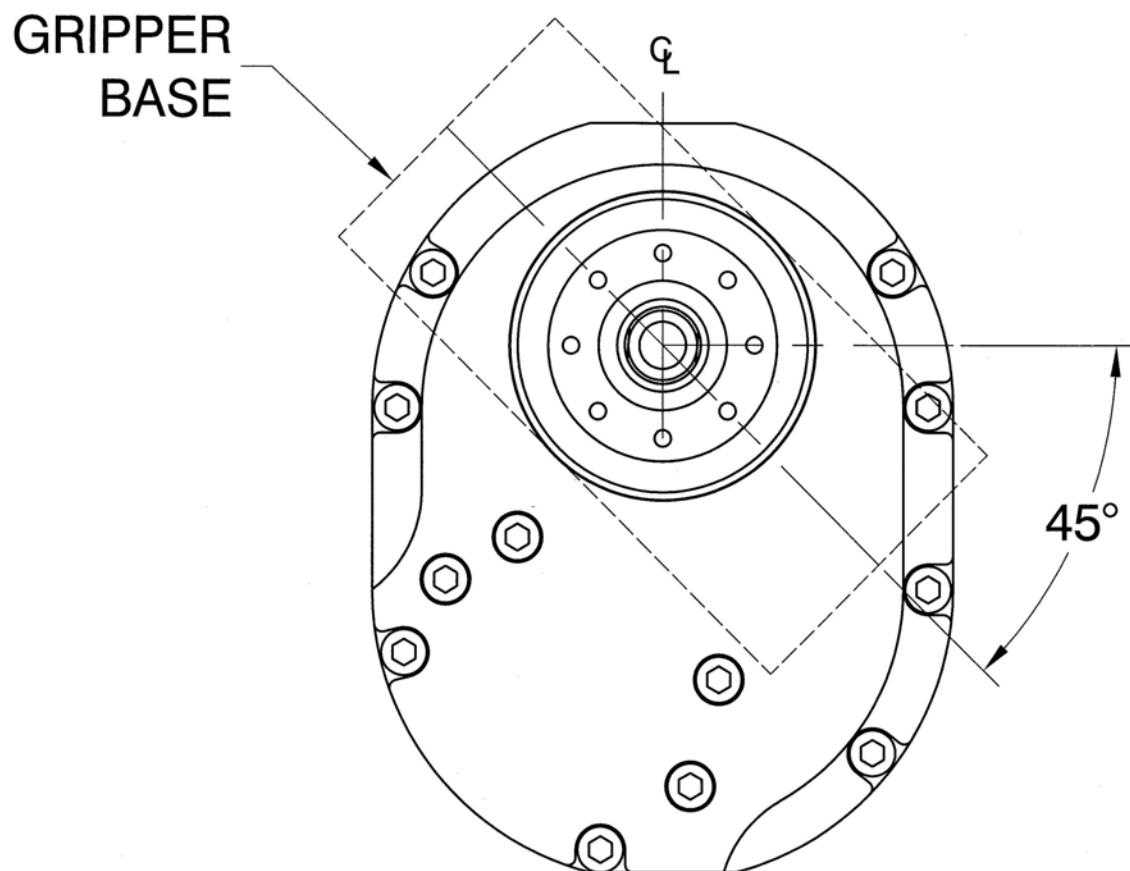
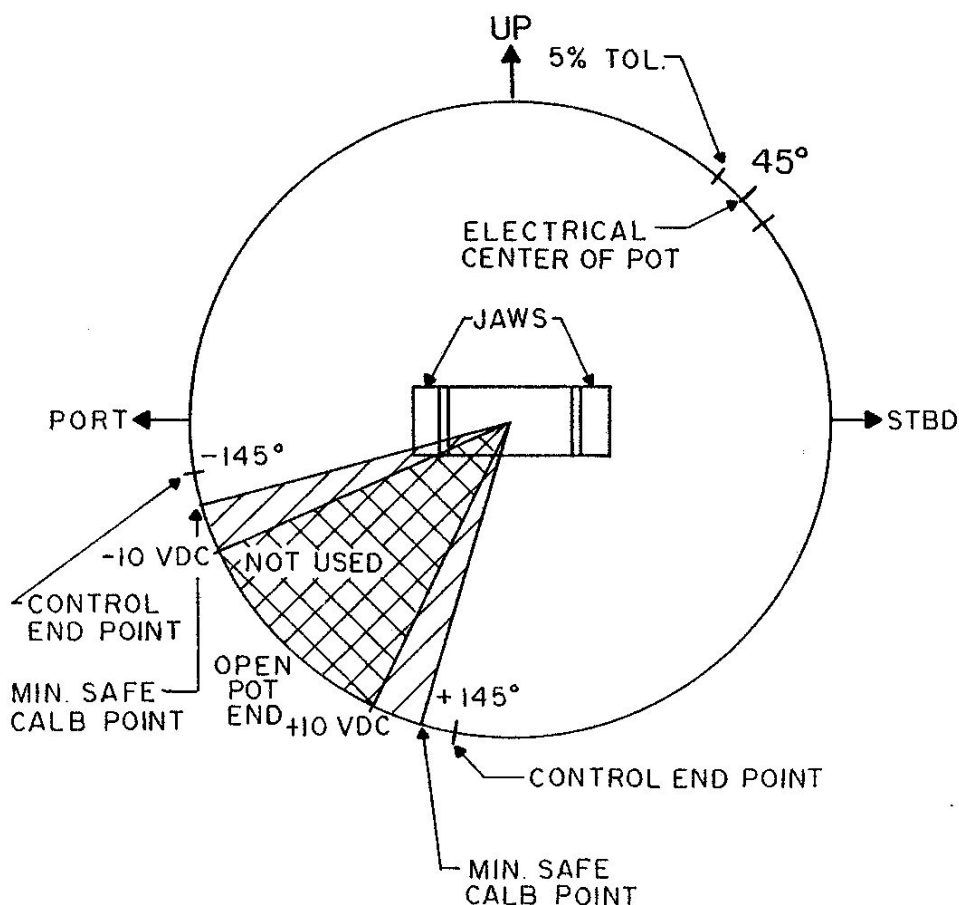

Figure 4-17 Position of wrist roll actuator shaft when centering potentiometer electrical travel
Figure 4-18 Relationship between the mechanical travel of the actuator and the electrical travel of the feedback potentiometer
31. Position the actuators output shaft so that any two screw holes align along the vertical center line as shown in Figure 4-17. Turn the gear/potentiometer shaft until 1/2 of the potentiometers total resistance (approximately 2.5K ohms) is measured across pins 1 and 2 of the connector. Apply Loctite 222 to set screw and tighten. Figure 4-18 shows the relationship between the mechanical travel of the actuator and the electrical travel of the feedback potentiometer.